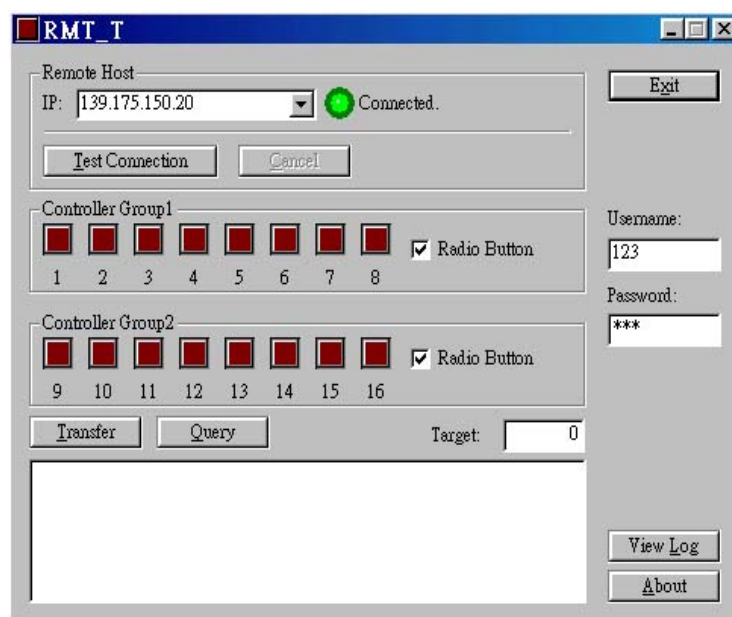

Fig. 14
- (5) Enter “123” as “Username” and “123” as “Password” and press “Test Connection”, you will see the light of connection becomes green and shows “Connected”, as Fig. 14 shows: